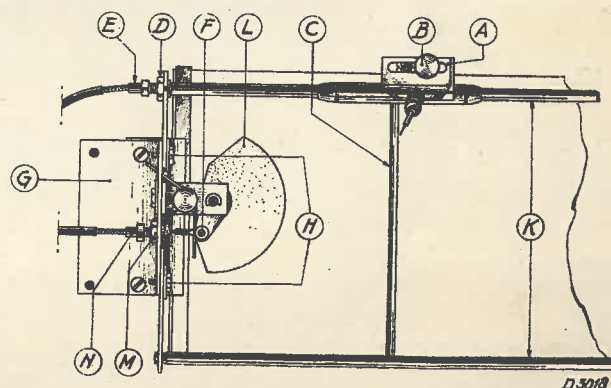

Fig. 6
4. Unscrew bracket A (fig. 6) from the pointer.
1. Unscrew bracket G (Fig. 6) from the cabinet. The scale can then be removed from the cabinet.
To ensure a good line of light on the scale, the pointer must move as close as possible to the scale without touching it. The distance between the pointer and the scale is adjustable; when the hex-headed screws H are loosened (Fig. 6), the rods K can be so adjusted that the pointer lies close to the scale.